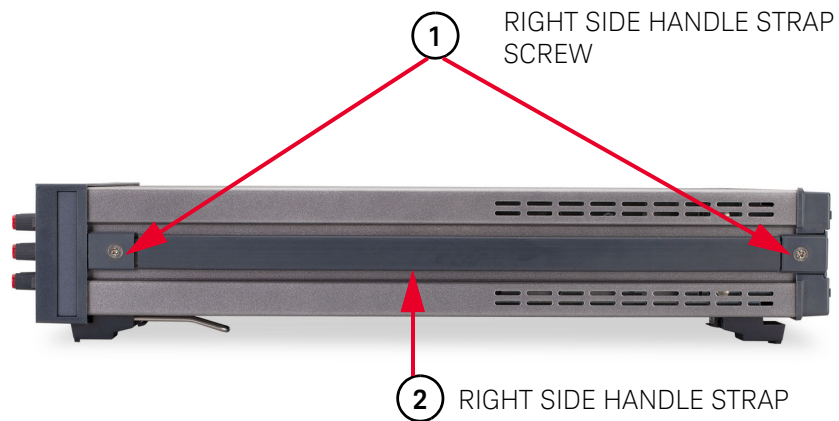
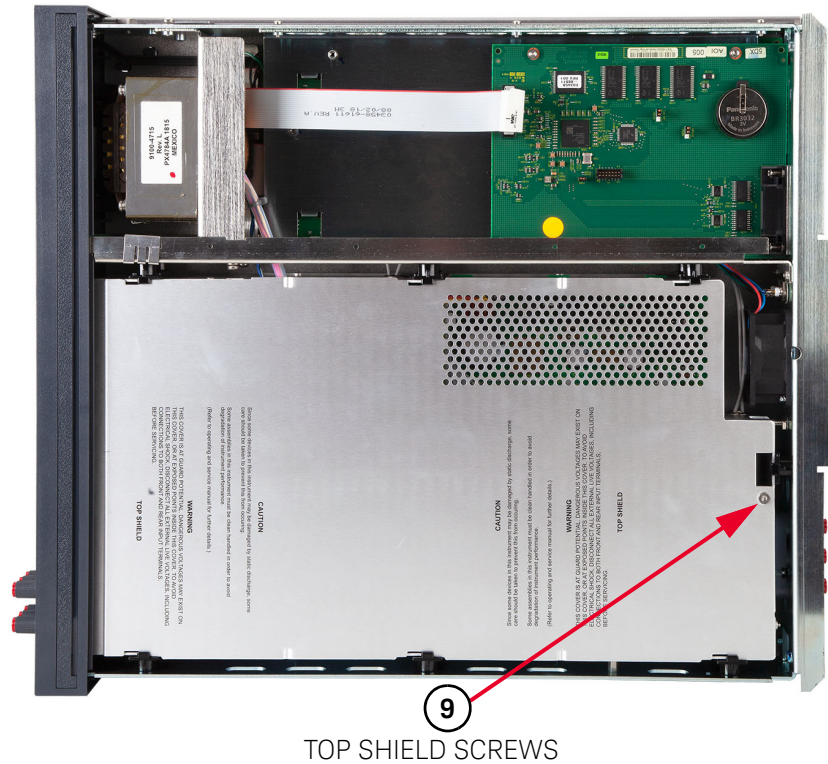

Figure 3-1 Right side handle removal/installation
Figure 3-6 Remove/Install top shield screw
The label numbers in Figure 3-1 to Figure 3-6 show the order of cover removal. Use reverse order for installation.
- 3** Refer to **Figure 3-1**. Turn the instrument so its right side (as seen from the front) faces you.
- 17 Refer to Figure 3-6. Turn the instrument over so its bottom sits on your workbench.
- 3** Refer to **Figure 3-6**. Turn the instrument over so its bottom sits on your workbench.
- 18 Refer to Figure 3-1. Turn the instrument so its right side faces you.